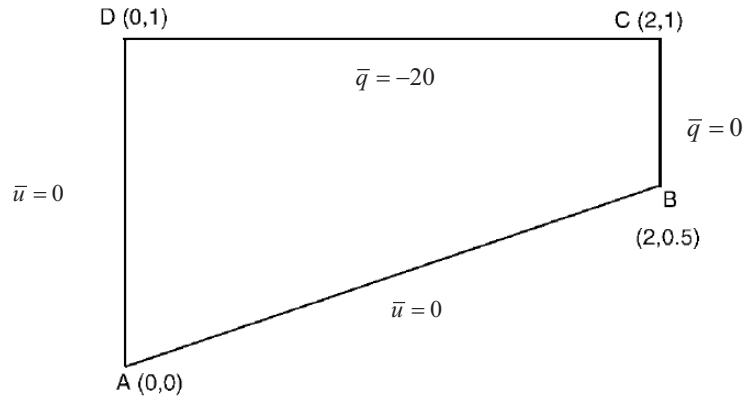

Figure 1
- To test the performance of the program, consider the heat conduction problem depicted in Figure 1. The coordinates are given in meters. The conductivity matrix is isotropic, with $\boldsymbol{\kappa} = \kappa \begin{bmatrix} 1 & 0 \\ 0 & 1 \end{bmatrix}$, and $\kappa = 10 \text{ W/}^\circ\text{C}$. The temperature $u = 0$ is prescribed along edges AB and AD. The heat fluxes $\mathbf{q} \cdot \mathbf{n} = 0$ and $\mathbf{q} \cdot \mathbf{n} = 20 \text{ W/m}$ are prescribed on edges BC and CD, respectively. A constant heat source $f = 4 \text{ W/m}^2$ is applied over the plate.